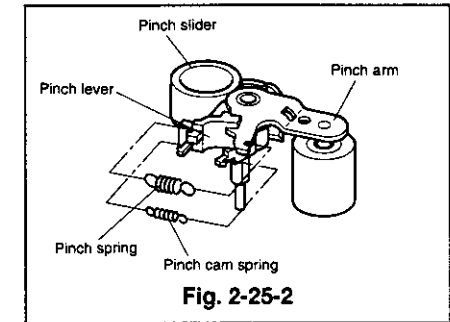

Fig. 2-25-2
- ① Install the pinch cam spring and the pinch spring making sure that the pinch arm, the pinch slider, and the pinch lever are composed as shown in Fig. 2-25-2.